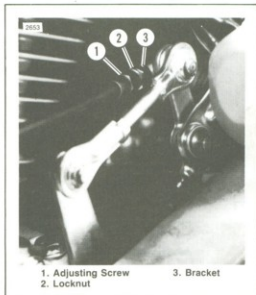

Figure 6-31. Clutch Cable Adjustment
5. Use allen wrench to hold adjuster screw in place and tighten locknut (2).
7. See Figure 6-31. Turn the adjusting screw (1) outward until 1/16 in. clutch lever free play is established. Tighten locknut (2).